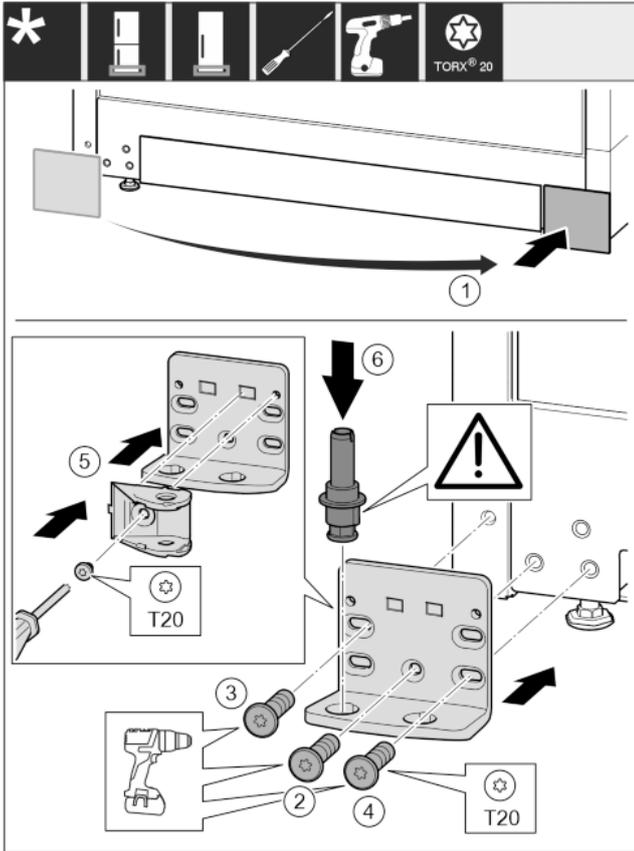

Fig. 28
- ▶ Remove the cover and fix it on the other side. *Fig. 28 (1)*
- ▶ Place the bearing bracket on the other side and screw it on with a T20 screwdriver. Start with screw 2 at the bottom in the middle. *Fig. 28 (2)*
- ▶ Screw in screws 3 and 4 tightly. *Fig. 28 (3,4)*
- ▶ Rotate the soft stop connection 180°. Screw it in with a T20 screwdriver on the other side of the bearing bracket. *Fig. 28 (5)*
- ▶ Insert the bearing pin completely. Make sure that the latching lug is pointing to the rear. *Fig. 28 (6)*